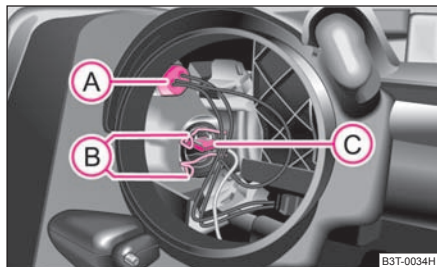

Fig. 218 Removing the light bulb for the parking and main beam light
- Remove the socket (A) ⇒ fig. 218.
- Press the sprung wire clamps (B) ⇒ fig. 218 together and hang them to the side.
- Remove the socket (C) ⇒ fig. 218.